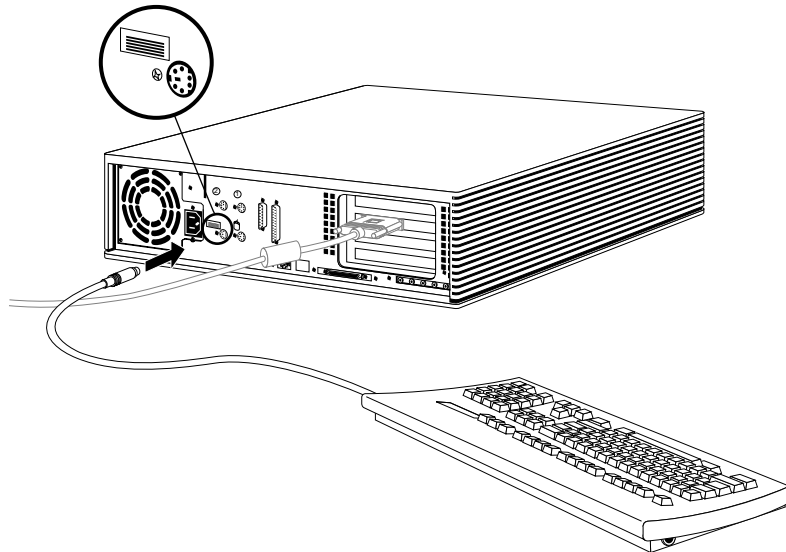

Figure 2-10 Connecting the Keyboard Cable to the Indigo² Chassis
2. Connect the keyboard cable to the connector below the keyboard icon on the back of the Indigo² chassis, as shown in Figure 2-10.